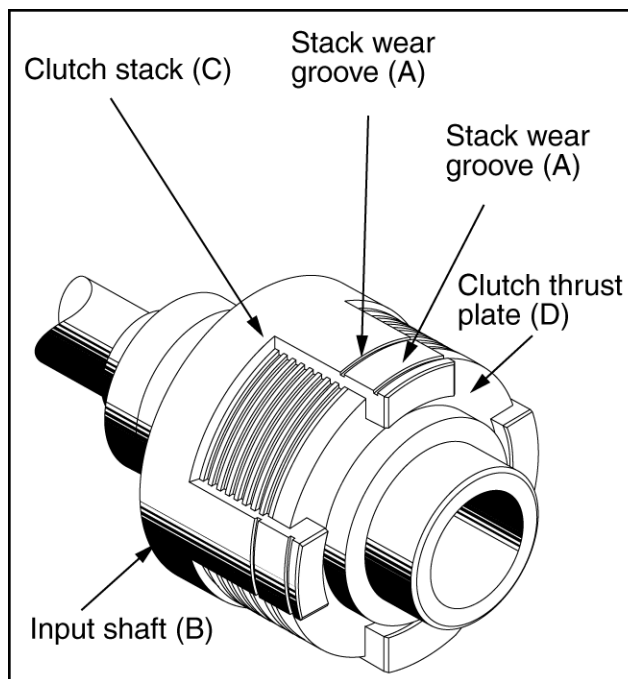

Figure 11.2 STACK WEAR GROOVES
Two "stack wear" grooves (A) have been machined in the input shaft (B) lugs to facilitate this visual check (see figure 11.2)
3. Using a flashlight, observe the clutch stack (C) through the inspection port (see figure 11.2).
If the rear surface of the clutch thrust plate (D) has moved up to or past the "stack wear" groove (A), the clutch stack needs to be replaced (see figure 11.2).